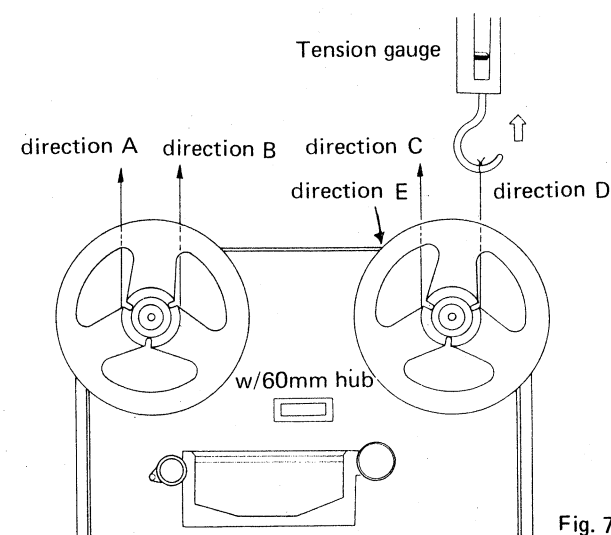

Fig. 7
• Adjustment Steps (Figs. 7 & 8)
2. With tape deck vertical, perform 19 cm/s playback and measure back tension of supply reel hub (pull in direction B of Fig. 7).
2. With deck in vertical position, perform 19cm/s playback and measure take-up reel torque (transmitted during take-up in direction E of Fig. 7).
1. With deck vertical, measure supply reel back tension (direction B of Fig. 7) during fast forward.